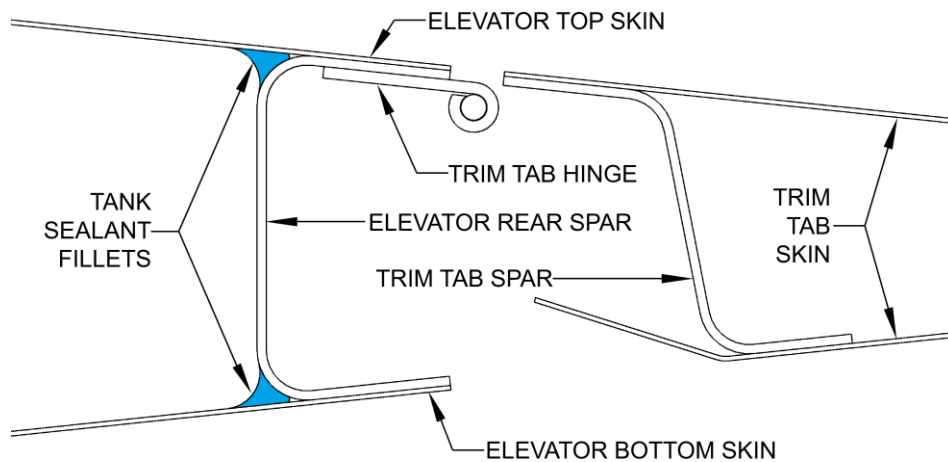

FIGURE 10: FUEL TANK SEALANT FILLET RADIUS WHERE REAR SPAR MEETS ELEVATOR SKINS
Step 14: Prepare and apply fuel-tank sealant to form a fillet radius on both the upper and lower sides where the E-1007/ E-00907 Rear Spar meets the elevator skin. The sealant can be applied through the lightening holes in the E-1002/E-00902 Front Spar. Ensure that the sealant makes contact both with the skin and with the spar. See Figure 10.